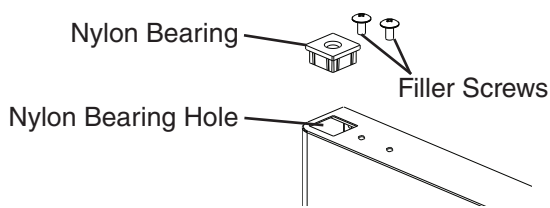

Fig. 9
- 7) Rotate the door 180 degrees, to its new orientation. Remove the nylon bearing and filler screws. See Fig. 9. **NOTICE! Care should be taken not to damage the door.** Mount the nylon bearing and filler screws into the holes left by the spring cartridge in the lower section of the door. See Fig. 10.